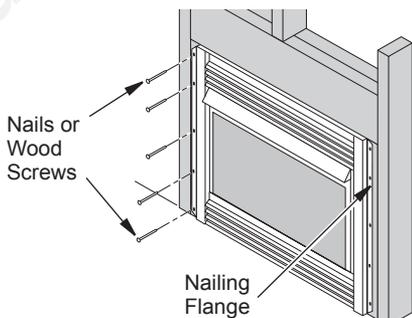

Figure 15 - Attaching Fireplace to Wall Studs
- Attach fireplace to wall studs using nails or wood screws through holes in nailing flange (see Figure 15).